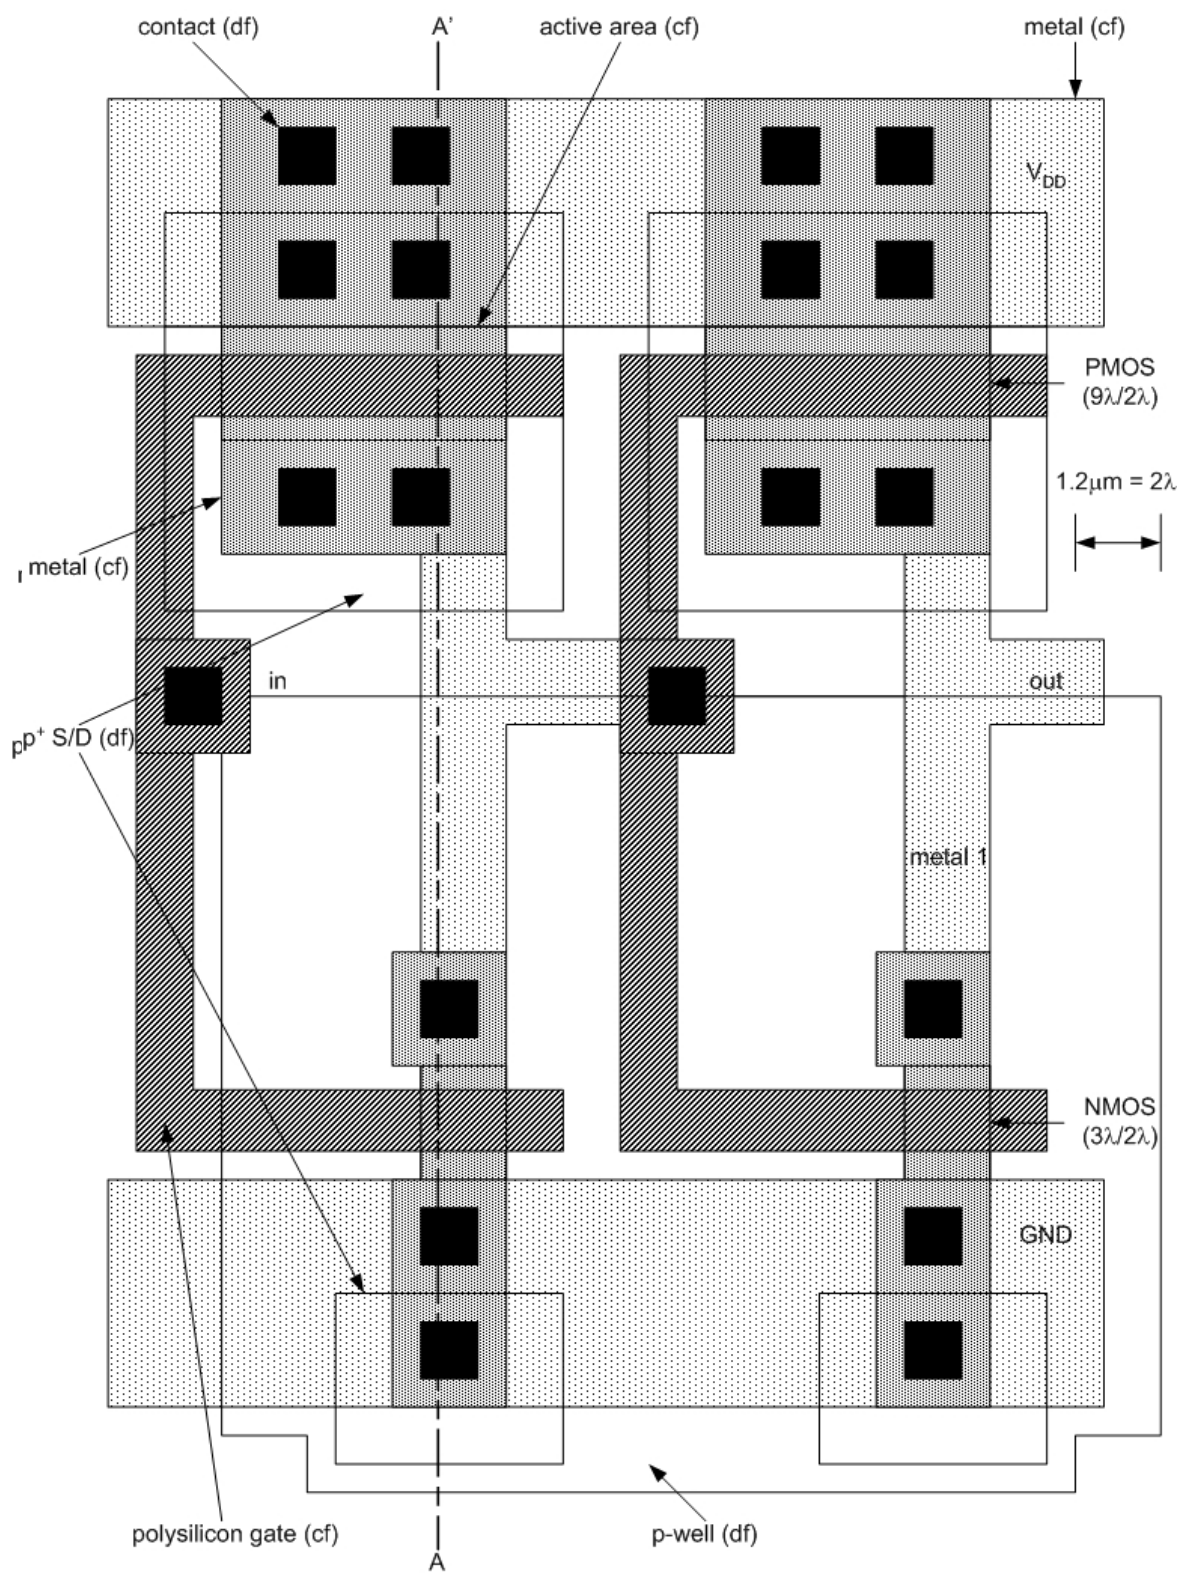

Figure 1
- Draw a qualitative cross-section corresponding to line A-A' in the layout (figure 1). Identify layers and try to draw their thickness to scale. (You should distinguish between CVD oxides and thermally grown oxides—i.e. label them.) Note that although capacitors are not used in this layout, you may need to account for the process steps involved with poly-to-poly capacitor formation to get a sufficiently accurate cross-section. (Note that mask layers are identified in the drawing below. '*df*' = dark field (i.e., box shows where an opening in the PR will be) and '*cf*' = clear field (i.e., box shows the portion to be covered by PR))